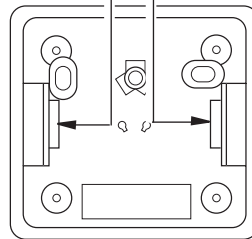

Figure 32 - Back View of Thermostat Base
5. Feed the electrical wires through the rectangular slots on each side of the base (see Figure 32).